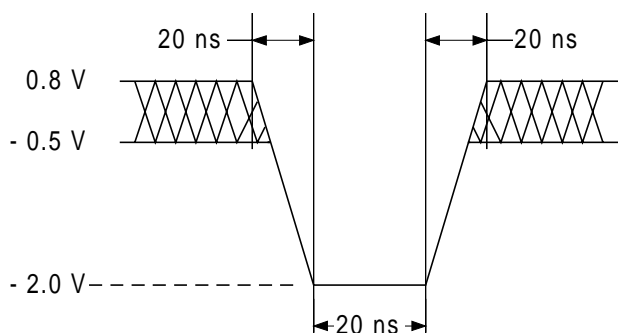
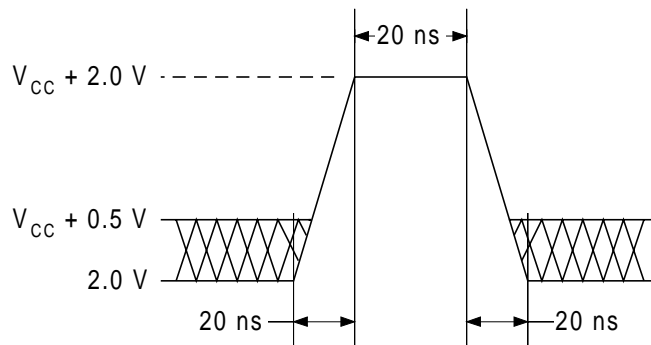

Figure 11. Maximum Undershoot Waveform
Figure 12. Maximum Overshoot Waveform
1. Minimum DC voltage on input or I/O pins is -0.5 V. During voltage transitions, input or I/O pins may undershoot V_{SS} to -2.0V for periods of up to 20 ns. See Figure 11. Maximum DC voltage on input or I/O pins is $V_{CC} + 0.5$ V. During voltage transitions, input or I/O pins may overshoot to $V_{CC} + 2.0$ V for periods up to 20 ns. See Figure 12.
2. Minimum DC input voltage on pins A[9], WP#/ACC, OE#, and RESET# is -0.5 V. During voltage transitions, A[9], WP#/ACC, OE#, and RESET# may undershoot V_{SS} to -2.0 V for periods of up to 20 ns. See Figure 11. Maximum DC input voltage on pins A[9], WP#/ACC, OE# and RESET# is +12.5 V which may overshoot to 14.0 V for periods up to 20 ns.